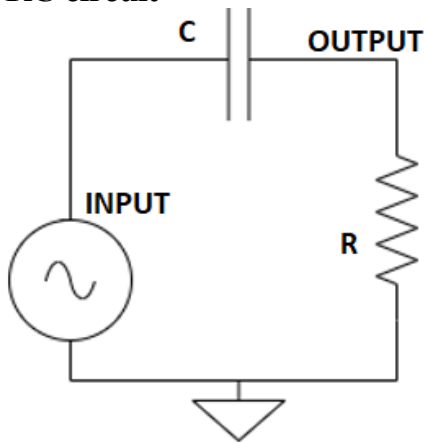

Figure 4 High Pass Filter circuit
1. Connections are made as shown in Fig.4